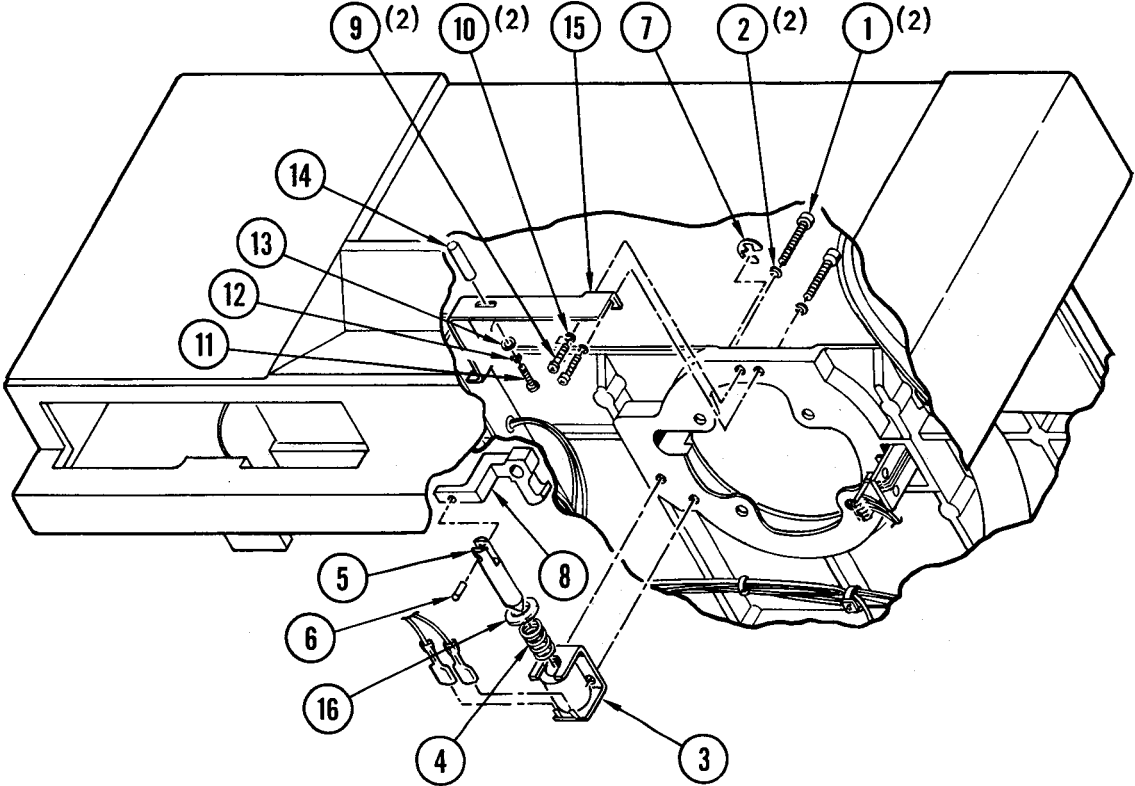

Figure 4-29. Hub Lock Assembly
4-45. **Disassembly, Removal and Replacement (Figure 4-29).** To disassemble hub lock assembly and remove parts from top plate and supply motor, proceed as follows:
- c. Remove wire terminals from solenoid (3, Figure 4-29) and identify for reassembly.
- d. Remove two screws (1), and lockwashers (2), and remove solenoid (3) from top plate and spring (4) and washer (16) from solenoid plunger (5).
- e. If plunger (5) or bellcrank (8) must be replaced, remove supply motor in accordance with instructions in paragraph 4-44. Remove retaining ring (7) and bellcrank (8) from motor, and press out pin (6), releasing plunger (5).
4-47. **Manual Unlock Assembly (Hub Lock) (Figure 4-29).** To replace the manual unlock assembly or one of its parts, proceed as follows:
- b. Remove manual unlock assembly from top plate by removing two screws (9, Figure 4-29) and lockwashers (10).
- c. Remove pin (14) from bracket (15) by removing screw (11), lockwasher (12), and flatwasher (13).